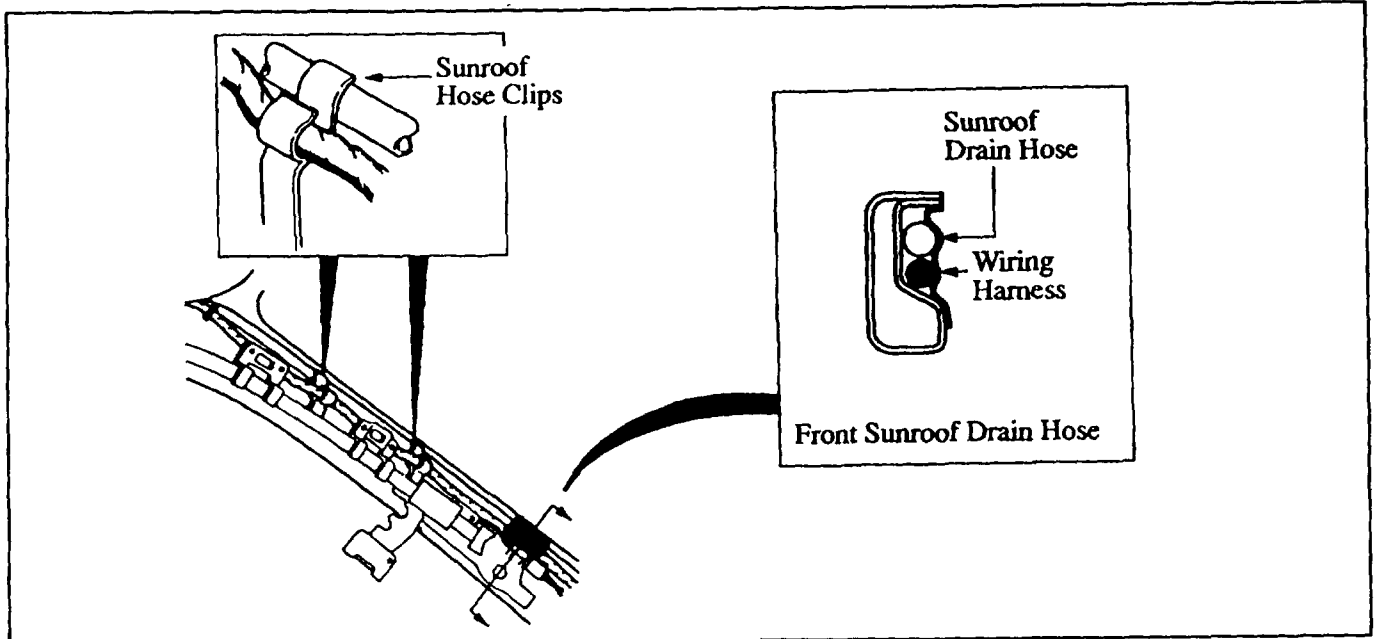

Figure 7: Checking Front Drain Hose
6. If necessary, reposition the hose so that there are no loops, kinks or pinched areas. Repeat the water test. Make sure that the sunroof drains properly with no leaks. Figure 7.